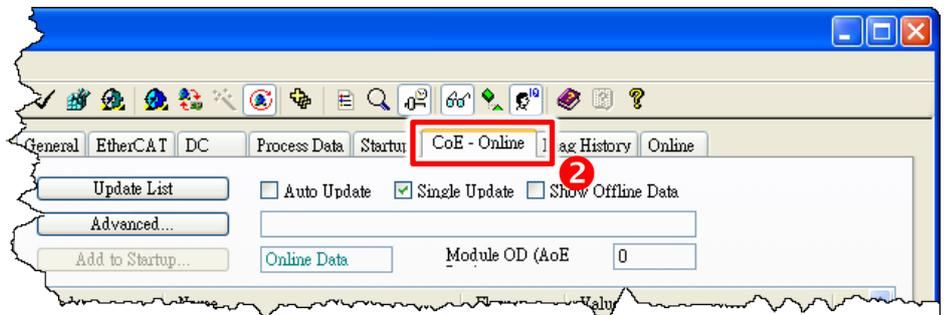

Figure 3-3.4
- ❷ In the right-hand window, click the “**CoE – Online**” tab. (See Figure 3-3.4)
- ❸ **Double-click** the “**Index 8000:19 (AI Range)**” to open the “**Set Value Dialog**” box.
- ❹ Select the **AI range value (e.g.,  $\pm 5\text{ V}$ )** from the “**Enum**” drop down options and then click the “**OK**” button.